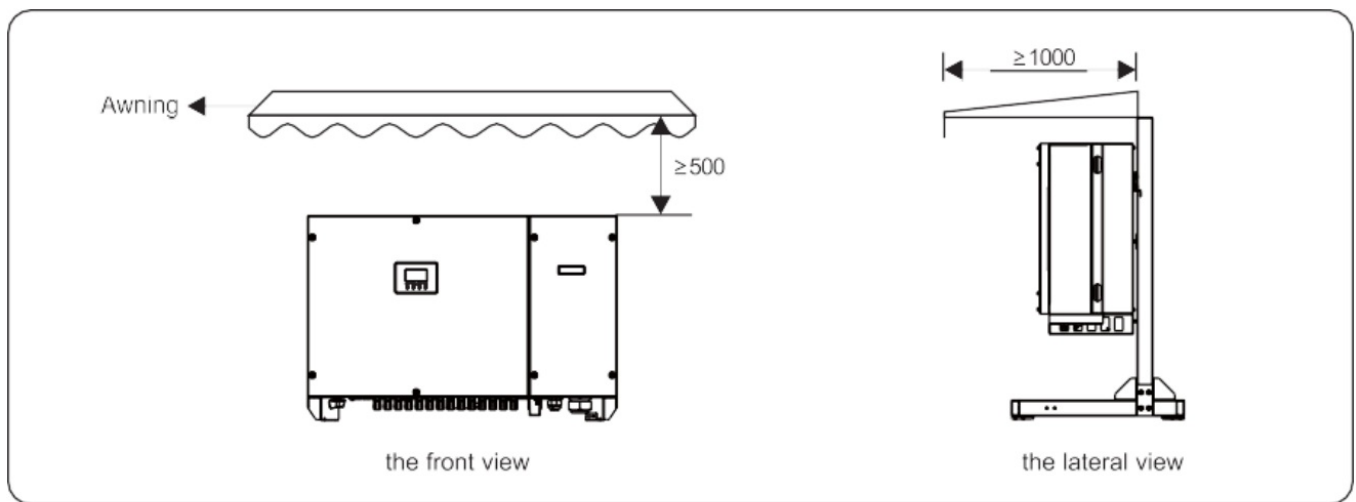

Figure 4.3 Installation environment with awning (unit: mm)
- The inverter must be free from direct exposure to sunlight, rain, and snow to extend its service life. It is recommended that the inverter be installed in a sheltered place. If no shelter is available, build an awning, as shown in Figure 4.3.